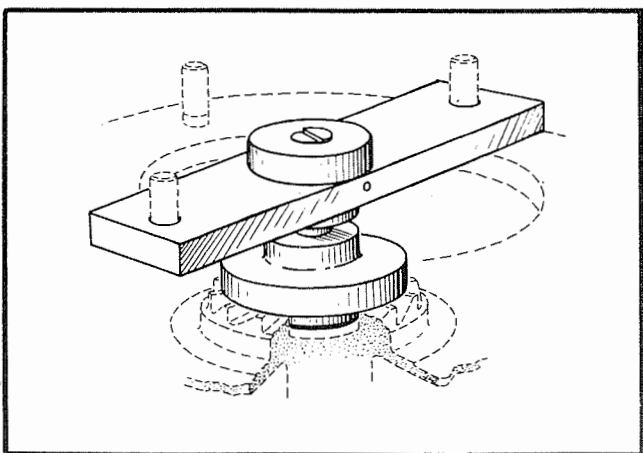

Figure 7-89. Starter Adapter to Starter Coupling Limit Flush Pin Gage
e. Measure the distance from the face of the starter mounting pad to the face of the starter coupling using gage 806222 (figure 7-89). If the distance is not within the limits of 1.657 - 1.683 inches, check for proper assembly of the starter coupling. Remove the gage and install the starter.